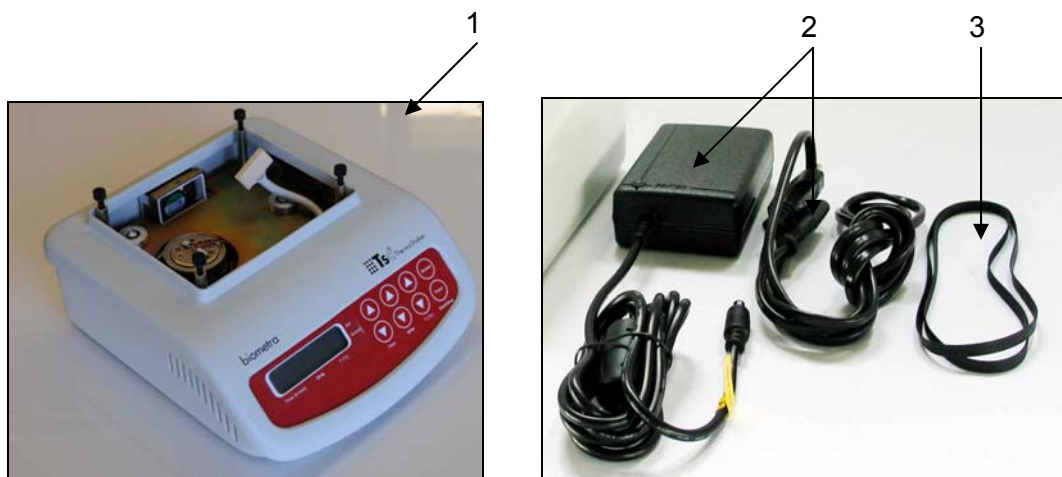

Fig. 1: Delivery Parts
- 1 x ThermoShaker apparatus (Fig. 1/1)
- 1 x External power supply unit + cable (Fig. 1/2)
- 2 x Spare rubber belt (Fig. 1/3)